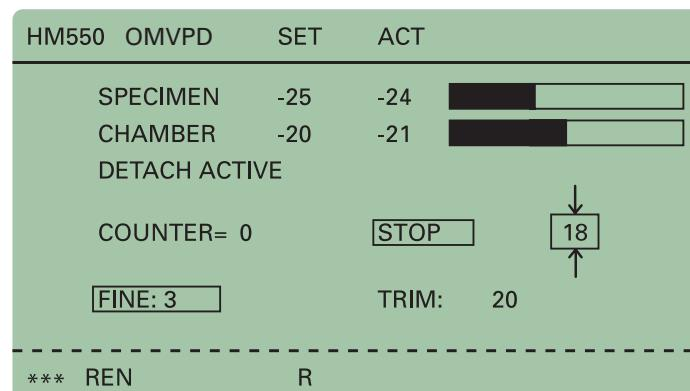

Figure 110. Display: Detaching function active.
- If “HEAT.” is selected, the Peltier element heats up until it has reached a positive end temperature. This way, tissue specimens can be detached from the chuck inside the chamber (fig. 110).